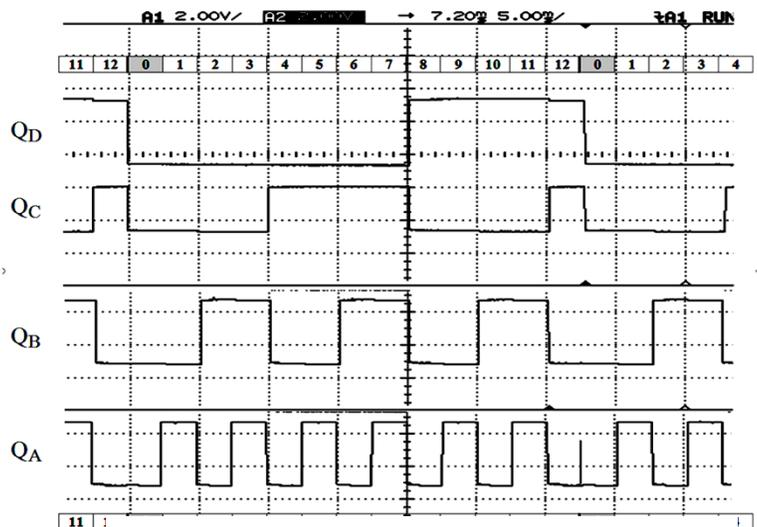

Figure 2.5. Expected waveforms for a mod-13 counter.
The diagram shown in Figure 2.5 is for  $N = 13$ . The display starts at the left shortly before QD goes low to trigger a new cycle of 13. The count proceeds from 0000 to 1100 (12) for a total of 13 full count periods. It then enters 1101 (13) just long enough to reset itself to 0000 again. In binary, the sequence 12-13-0 looks like  $1100 > 1101 > 0000$ . Notice that QA (lsb) goes to 1 as the count reaches 13. You can see this in Figure 2.5 at the end of count 12. QA shows a short spike as it brings the count to 13. It rises and then immediately falls, having reset all the Q's, including itself, to 0. This spike is much too narrow to be seen with the scope settings you will be using since it only lasts about 50 nanoseconds. But it is there (it must be, or what else would reset the counter?).
- Answer the following question: for  $N = 13$ , the count sequence  $1100 > 1101 > 0000$  shows why there is a spike in QA in Figure 2.5. For your value of  $N$ , take the same approach to show which Q should spike during the reset sequence.